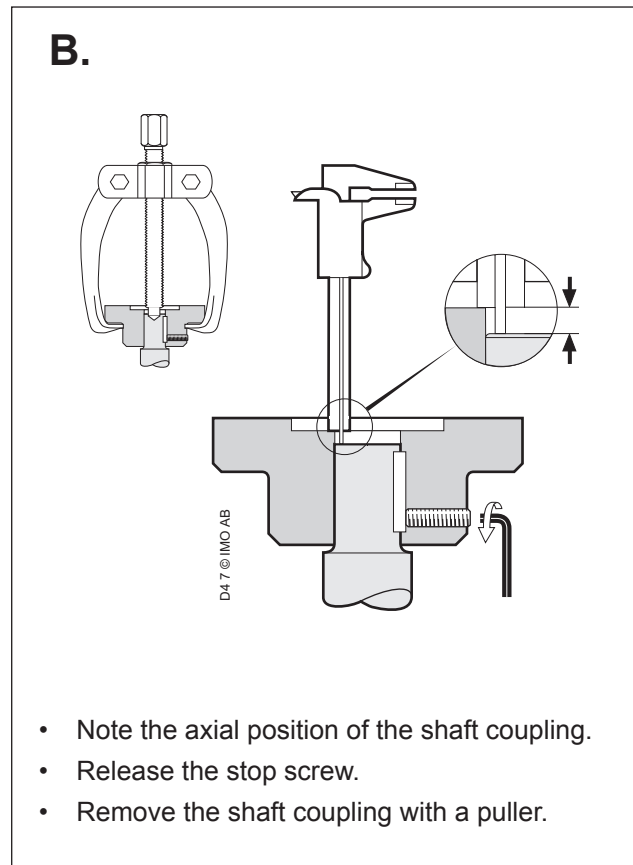

Fig. 6
- Check that the axial position is the same as before dismantling. (See fig. 6).